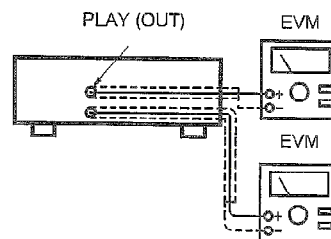

Fig. 5
1. Connect the measuring instruments as shown in Fig. 5.